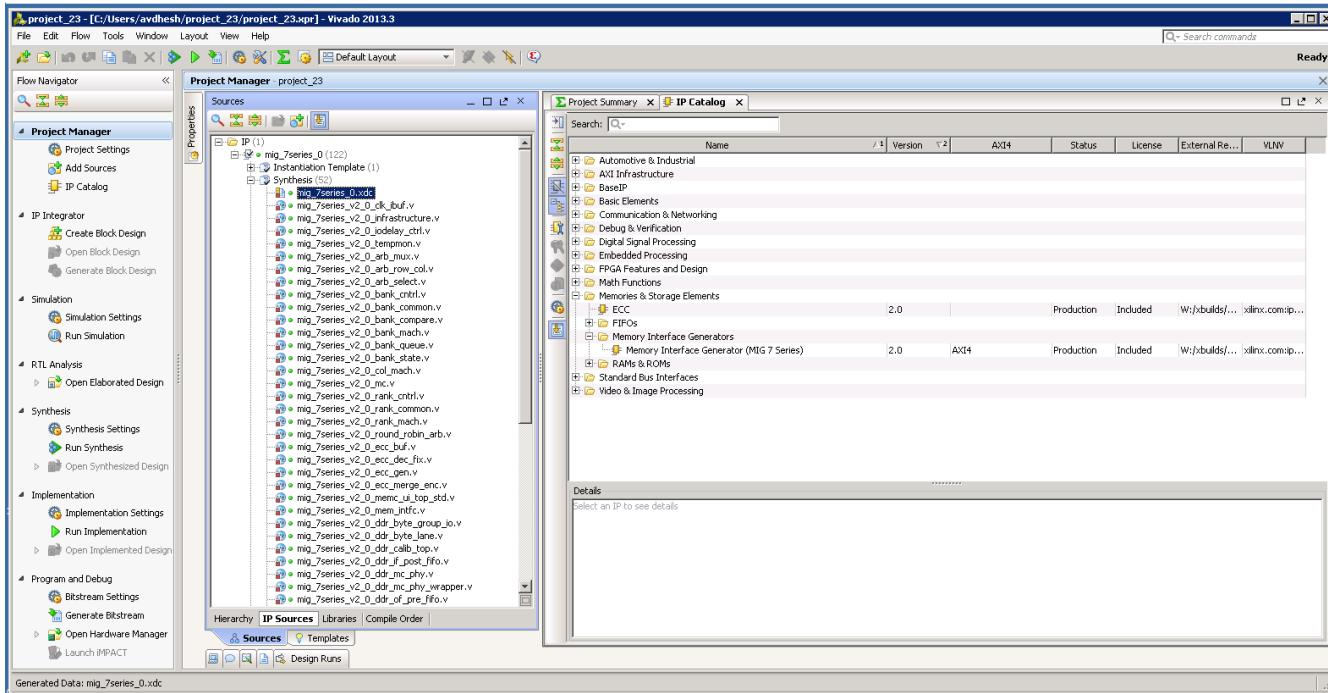

Figure 1-33: Generate RTL and Constraints
6. All MIG generated user design RTL and XDC files are automatically added to the project. If files are modified and you wish to regenerate them, right-click the XCI file and select **Generate Output Products** (Figure 1-33).